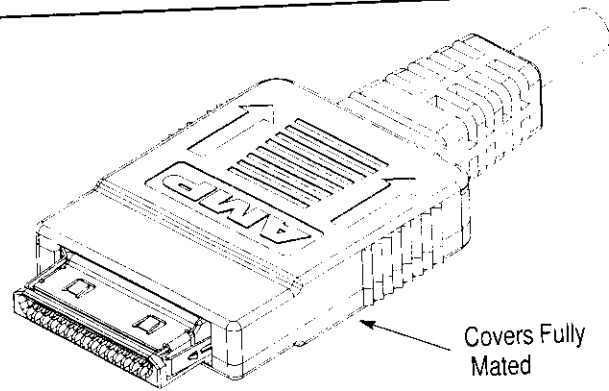

Figure 4
2. Place the second cover over the assembly and into the first cover. It may be necessary to deflect the second metal latch slightly to fit it into the proper cavity in the cover. The two covers should be pushed together until they are fully mated (see Figure 4).